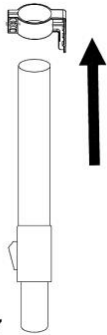

Fig.7
Step 7: Insert the adjustable tube into the hook and set the tube in place (Fig. 7). Fasten with the screw.